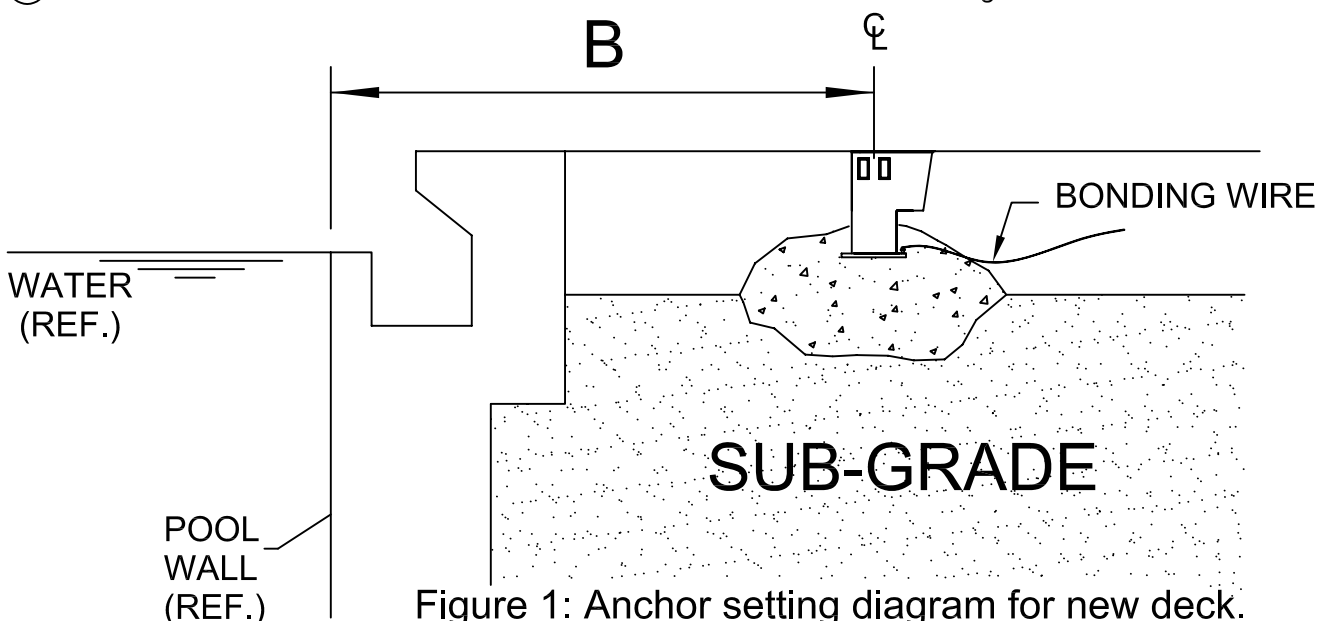

Figure 1: Anchor setting diagram for new deck.
- ② Properly attach the bonding wire/grounding wire to the brass screw located at the bottom of the anchor socket.
- ③ Prop and secure the socket at the correct location and height. The centerline of the socket base plate must be set at the exact 'B' dimension as measured from the pool wall with the wedge housing facing away from the pool wall as shown below. This measurement should be taken from the vertical face of the pool wall. The top of the socket must be flush with the deck and square with the pool edge (see Figure 1).
- ① Locate approximately where the starting platforms are to be installed (refer to Figure 1 on page 1 of 4). This will be at the 'B' dimension back from the pool wall and at the center of the lane.
- ① Locate approximately where the starting platforms are to be installed (refer to Figure 1 on page 1). This should be at the 'B' dimension as measured back from the pool wall and at the center of the lane.